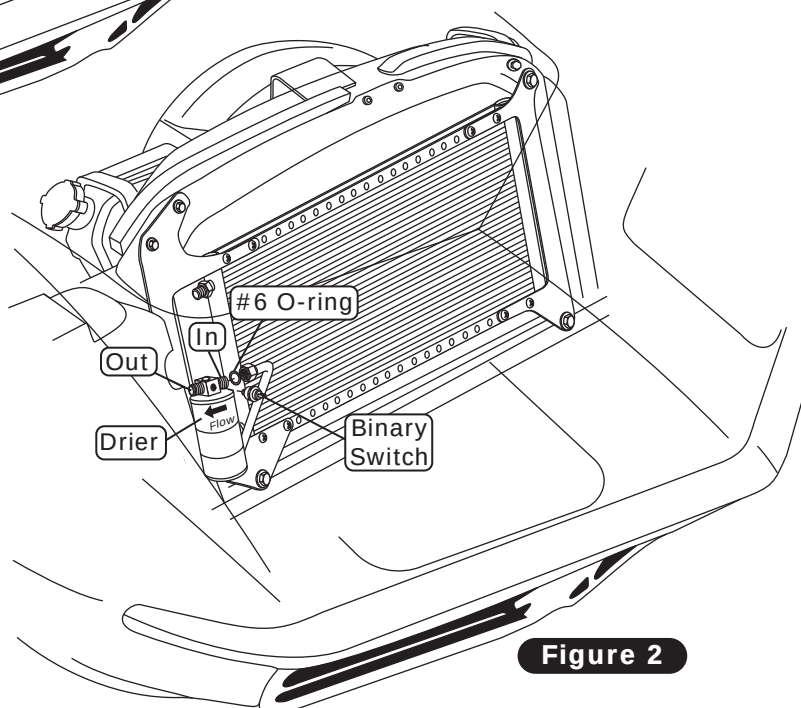

Figure 2
4. Lubricate a #6 O-ring (See Lubricating O-ring, Page 6), and connect the #6 condenser/drier hardline to the drier as shown in Figure 2, below. **NOTE: Do not fully tighten the #6 hardline at this time. Hand tighten only.**
5. Install the binary switch onto the drier as shown in Figure 2, below.